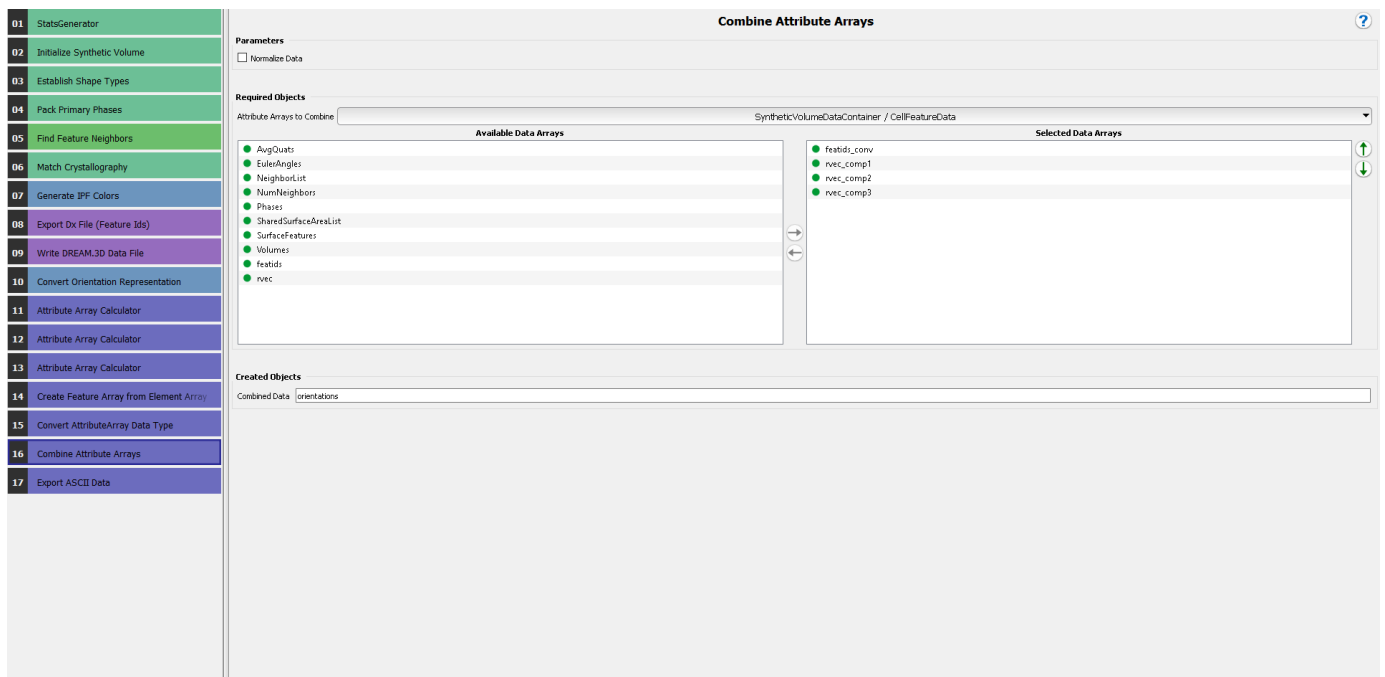

Figure 19: Combine attribute arrays
17. We are now ready to combine the required data into a single data container. Copy the **Combine Attribute Arrays** filter to the pipeline window. For **Attribute Arrays to Combine** choose **SyntheticVolumeDataContainer / CellFeatureData**. Then from the **Available Data Arrays** double-click on the names **featids_conv**, **rvec_comp1**, **rvec_comp2** and **rvec_comp3**. Name the new data container as **orientations**, beside **Combined Data** (Fig. 19). We are now ready to export this data to an ASCII file so that the PRISMS-CPFE code can read it in.